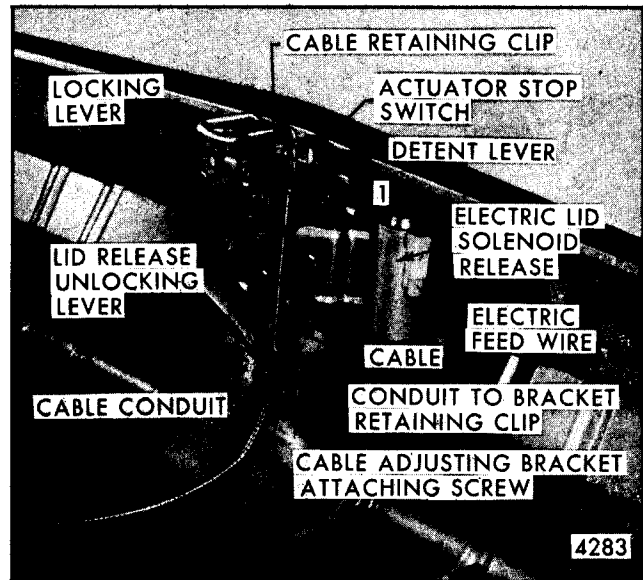

Fig. 8-11-Rear Compartment Mechanical Pull-Down Unit and Electric Lid Release - Cadillac Styles
1. Open rear compartment lid and remove mechanical pull-down unit cover panel. Depress striker slightly to relieve tension from cable and disengage clip securing cable to pull-down control arm (Fig. 8-11).
3. Scribe position of pull-down unit on rear end panel to facilitate installation. Remove pull-down unit attaching bolts and disconnect electric feed wire (Figure 8-11). Remove unit from body.
1. Disengage cable and cable conduit retaining clips at both ends of cable (Figs. 8-11, 8-12 and 8-13). Then, remove cable assemblies.
compartment lid lock must properly engage the striker arm and the detent lever on the mechanical pull-down unit (Fig. 8-11) fully depressed. Engagement can be checked by lowering the lid and visually checking lock and striker alignment. If adjustment is necessary, obtain "lateral" adjustment at lock attaching screw locations and "up or down" adjustments at pull-down unit attaching screw locations.
To increase cable tension or if finer adjustment is required, loosen cable adjusting bracket attaching screw (Fig. 8-11) and adjust bracket downward (to increase cable travel), then, tighten attaching screw.
IMPORTANT: A lack of lubrication between the toggle and the detent lever ("1", Figure 8-11) can greatly increase the effort required to trip (unlock) the pull-down unit. Therefore, make certain point of contact between these two levers is lubricated with 630 AAW Lubriplate or equivalent.